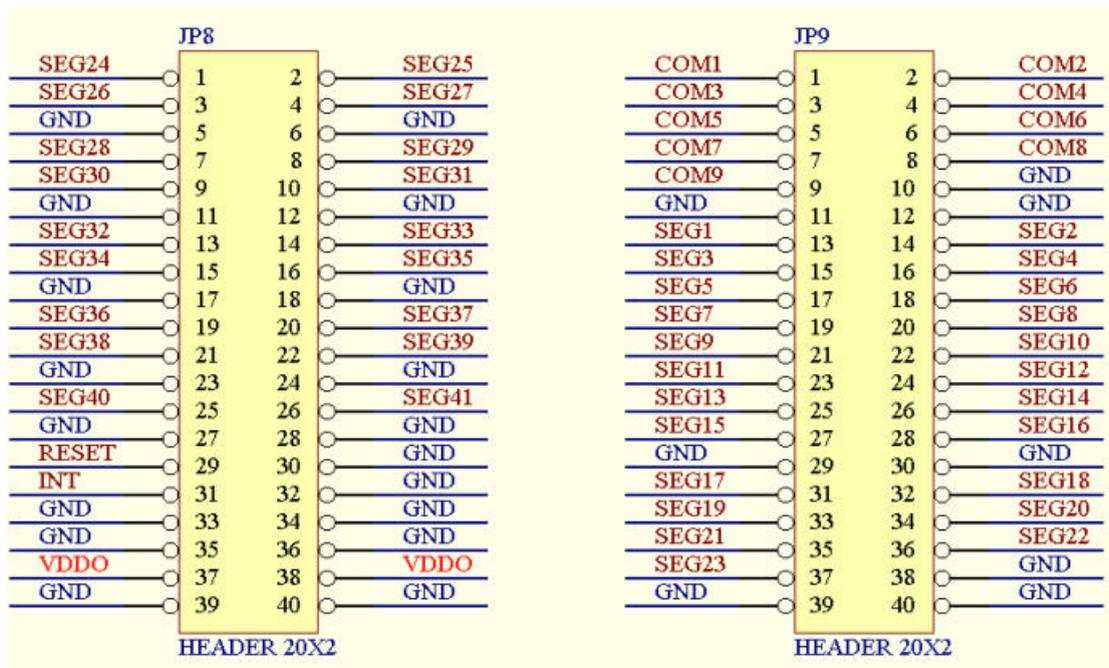

Figure 6
2. JP8, JP9: connecting to external testing boards or LCD panel signal. Please refer to Figure 6.